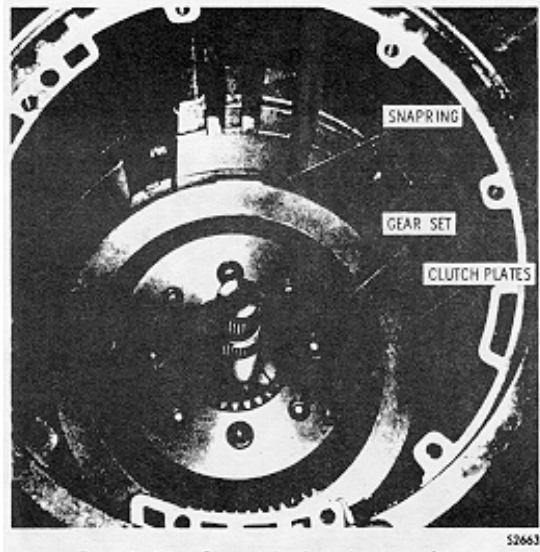

Fig. 7-11. Second-clutch snapping installed
(11) Install the 0.155 to 0.157 in. (3.94 to 3.99 mm) thick green snapping that retains the second clutch plates (Fig. 7-11).